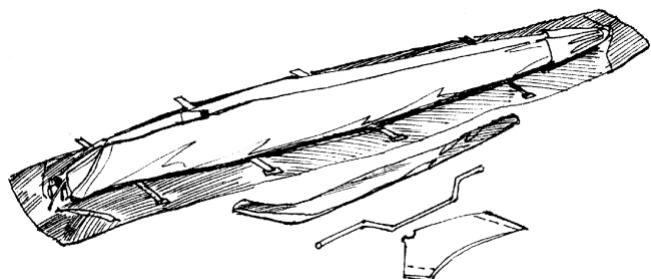

Fig. 22
2.2.1. Undo the zipper on the 6 meters bag and remove the battens in the bags, speedbar and the nose cone from the bag (Fig. 22).